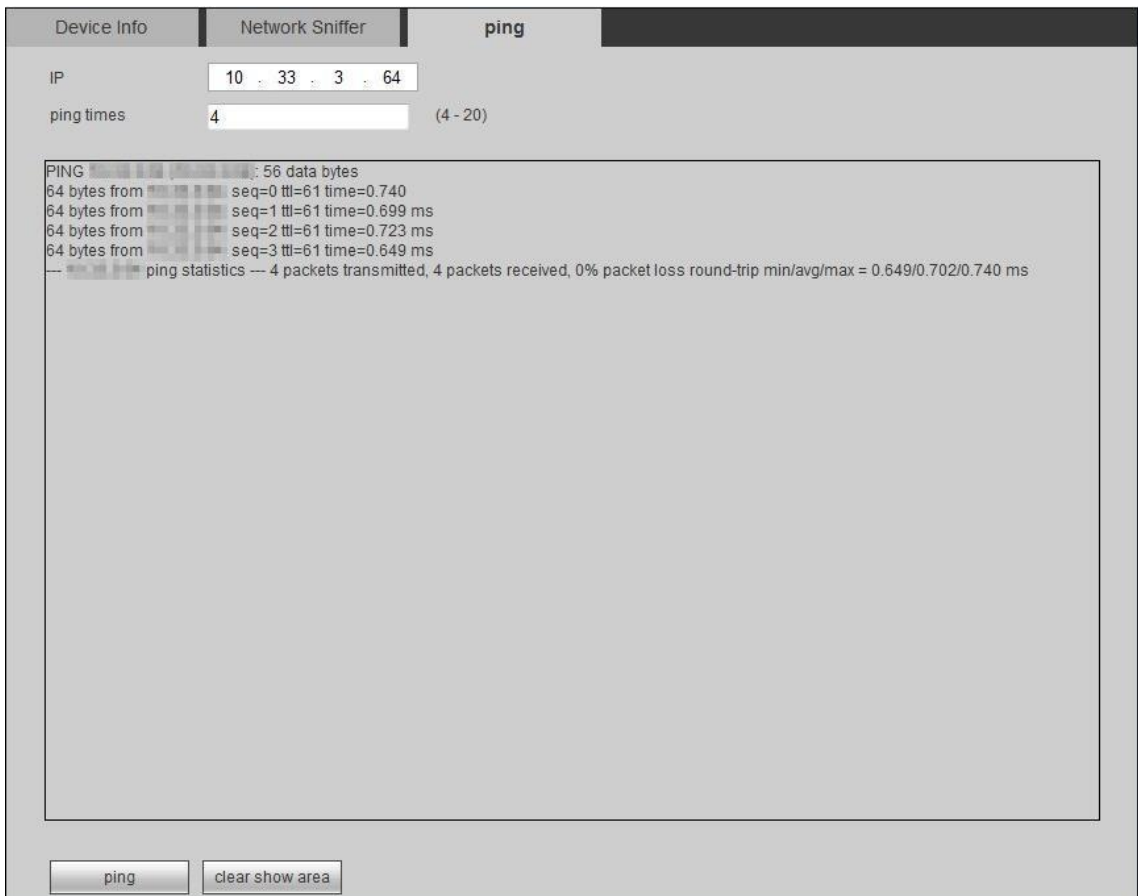

Figure 4-117
Step 2 Input IP address and ping times; click "ping". The interface displays ping info after several seconds, as shown in Figure 4-117.